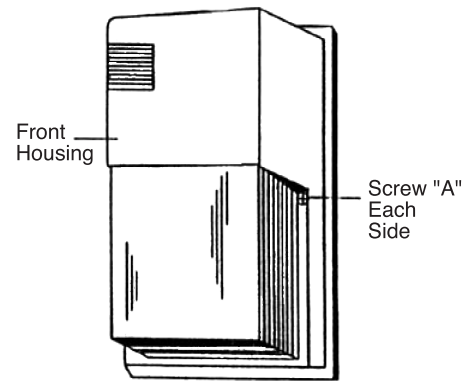

Figure 1
- Remove fixture lens cover housing by loosening screws (A Figure 1).
- Replace fixture lens cover, secure it with screws. Make sure that gasket is properly seated, free of debris, and compressed to seal out moisture. (A Figure 1).
- Loosen screws (A Figure 1) and remove fixture lens cover. Wear gloves and safety glasses. Remove old lamp and replace with new lamp of correct type and wattage. Screw lamp into socket in lampholder until finger tight.
- Replace fixture lens cover with screws (A Figure 1), making sure that gasket is properly seated, free of debris, and compressed to seal out moisture.